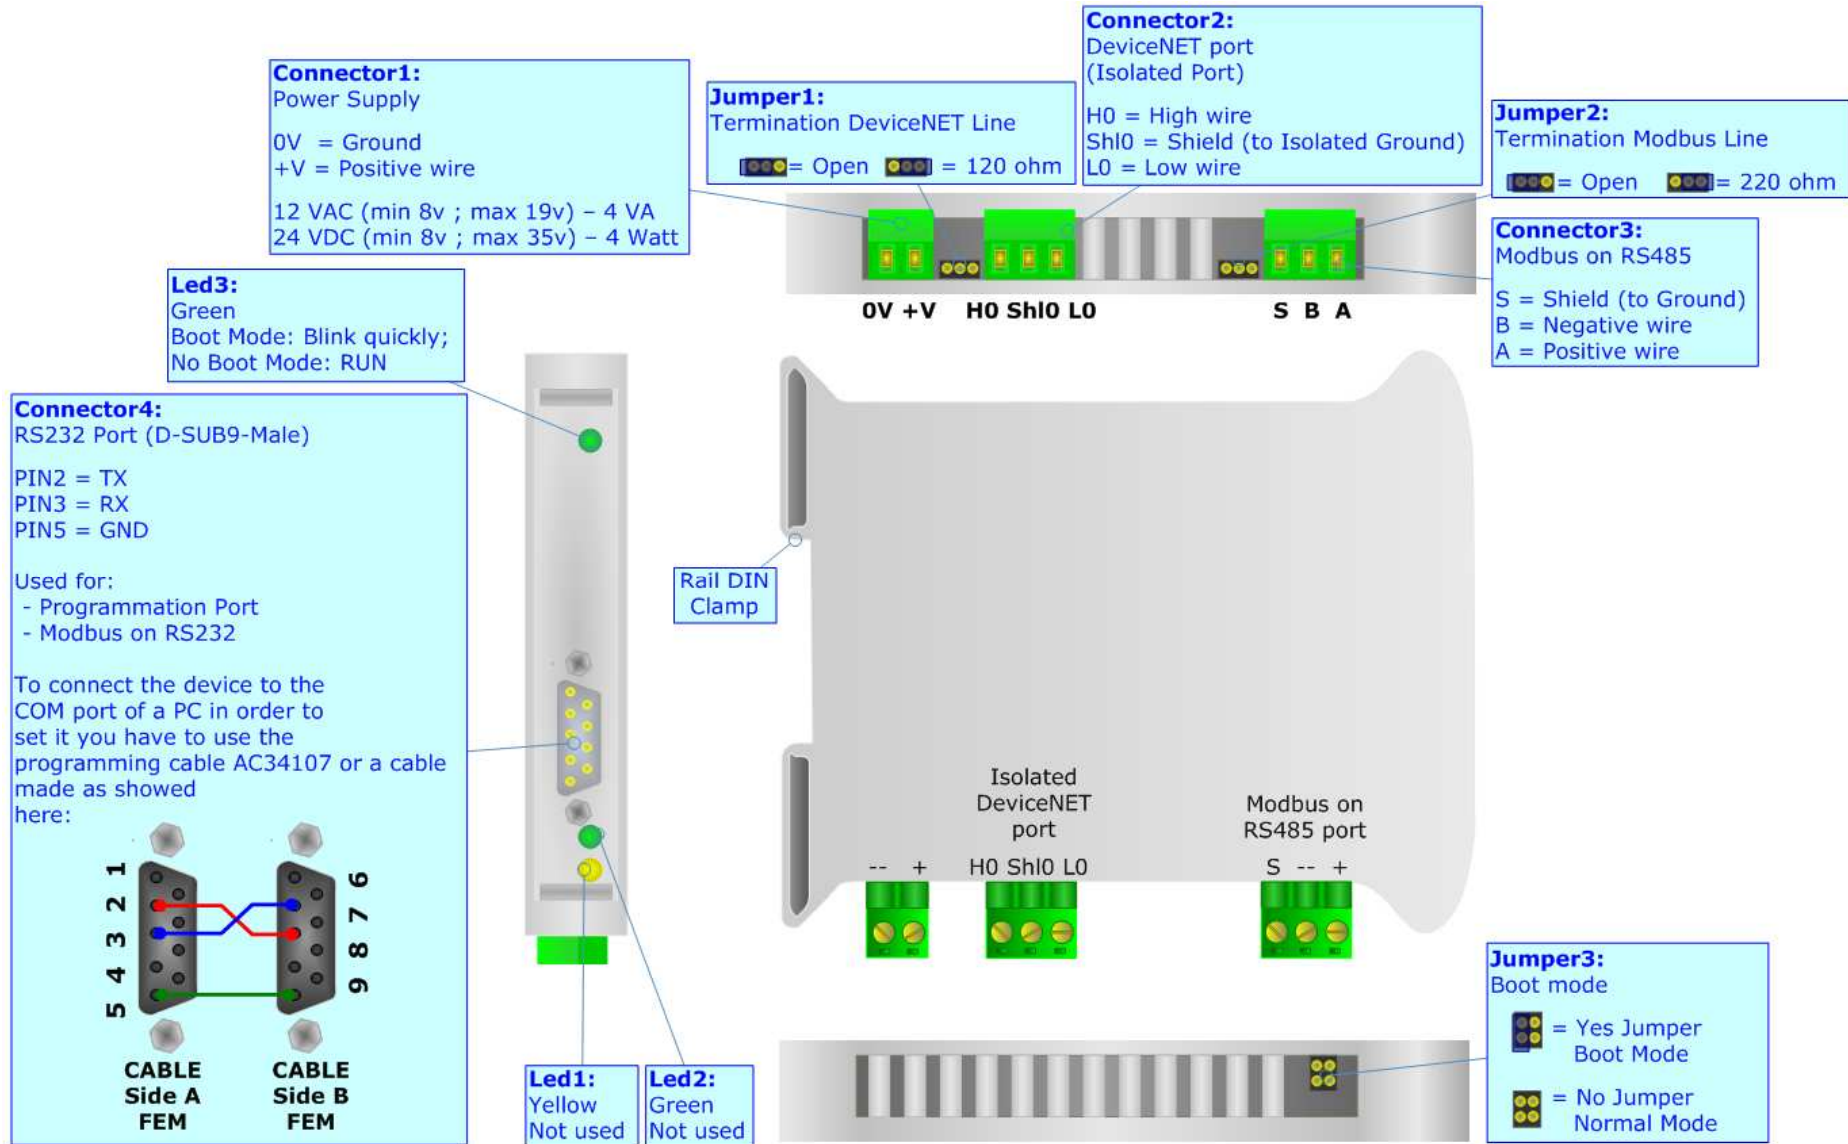
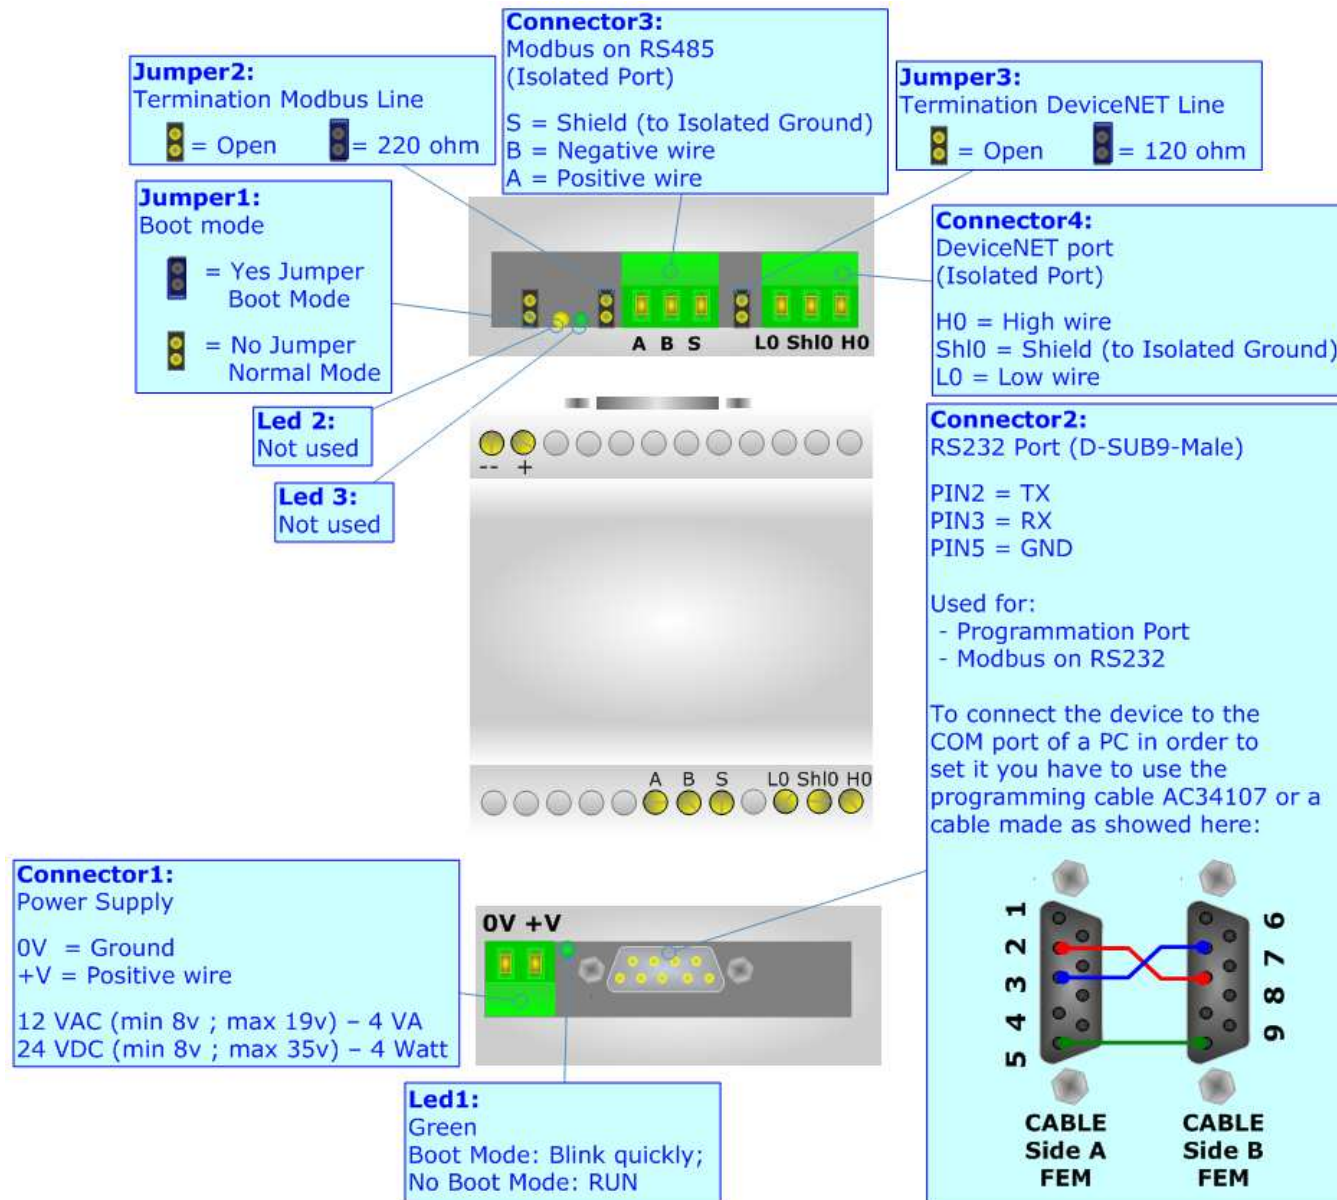

Figure 1: Connection scheme for HD67138-A1
Figure 2: Connection scheme for HD67138-B2
- Insert the Boot Jumper (For more info see Fig. 1 or Fig. 2);
- Check the BOOT Led. It must blink quickly (For more info see Fig. 1 or Fig. 2);